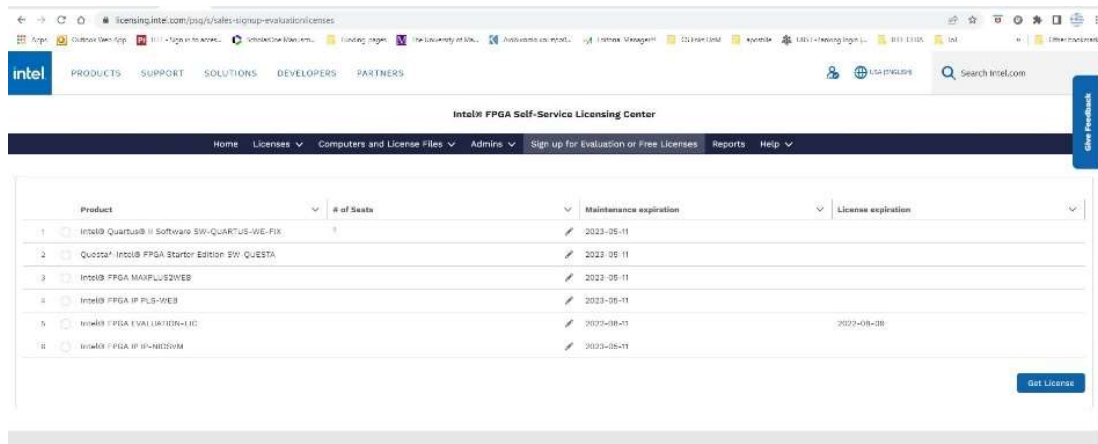

Fig. 1. SSCL Screen
- After registration, you will receive a confirmation email from Intel. Using this email, log on SSLC and click on the “Sign up for Evaluation or Free Licences” tab and select Questa*-Intel® FPGA Starter Edition, as depicted in Fig. 1, where you edit the number of seats to one. Click on “Get license”.